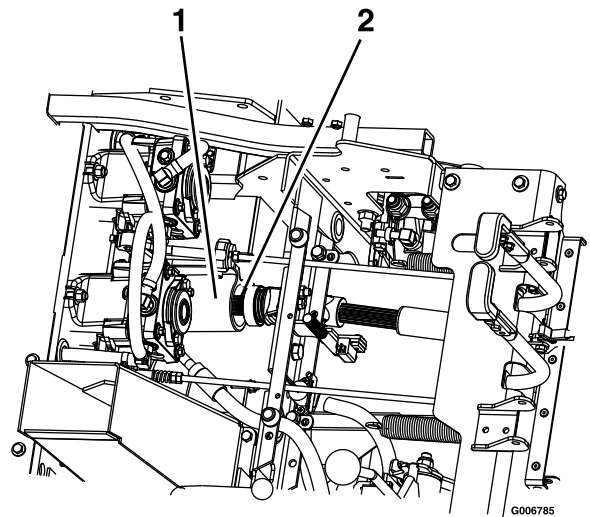

Figure 80
9. Unlatch the seat and disconnect the drive shaft using the quick coupler at the jackshaft (Figure 80). Refer to Unlatching the Seat \(page 24\)
5. Install the drive shaft onto the jackshaft (Figure 80).